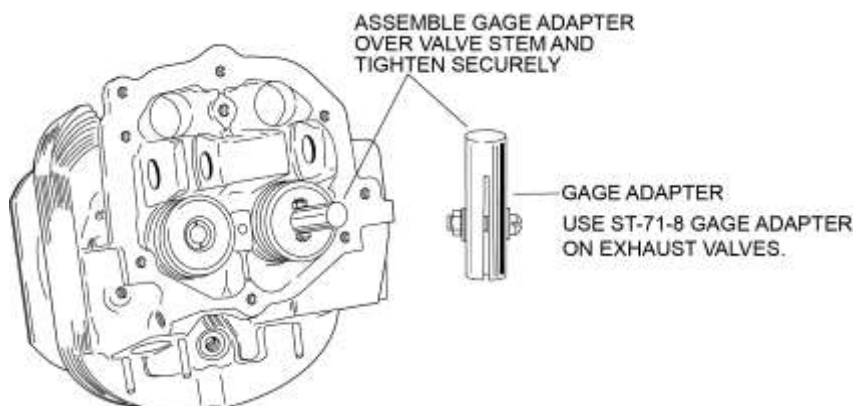

Figure 7
- (20) Install the Gage Adapter (ST-71-8) over the top of the exhaust valve stem (Figure 7). Make sure it is tight.